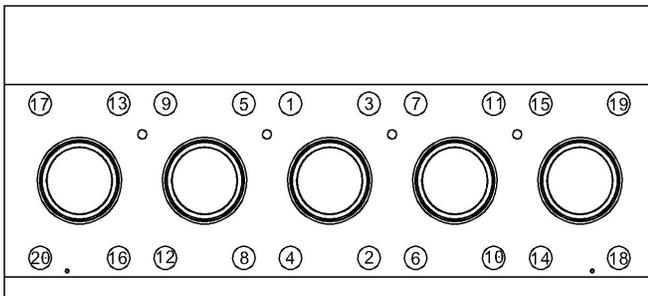

FIGURE 4-1 GD-2500Q Fluid End Tightening Sequence
19. Tighten all fluid cylinder attachment nuts, procedure listed in "Fluid End Removal and Installation," page 21, after 50-70 hours of pump operation. See FIGURE 4-1, page 22.
5. Using a hydraulic tensioning tool or torque wrench, torque all hex nuts to the Torque Requirements shown on page 36, using the sequence illustrated in FIGURE 4-1. These nuts MUST be kept tight. Under torqued nuts will lead to thread fatigue failure of the stay rods.